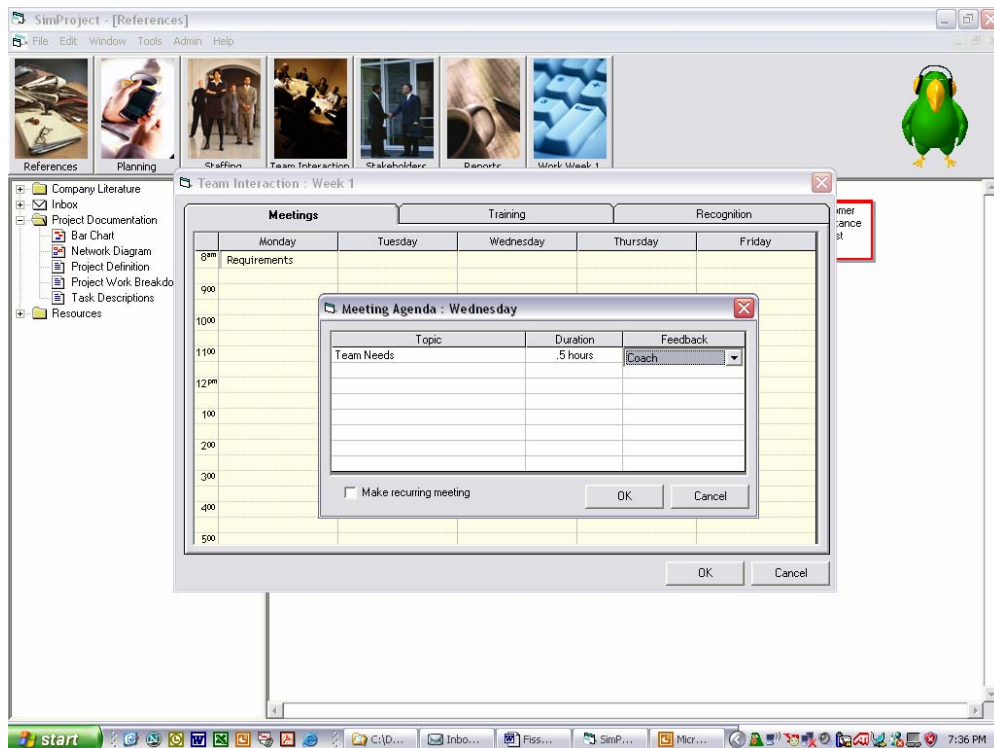

Figure 9 - Team Meetings Decisions by Day, Topic, Duration and Feedback
- Team Meetings – select the day, the duration, and topic(s) (Figure 9)